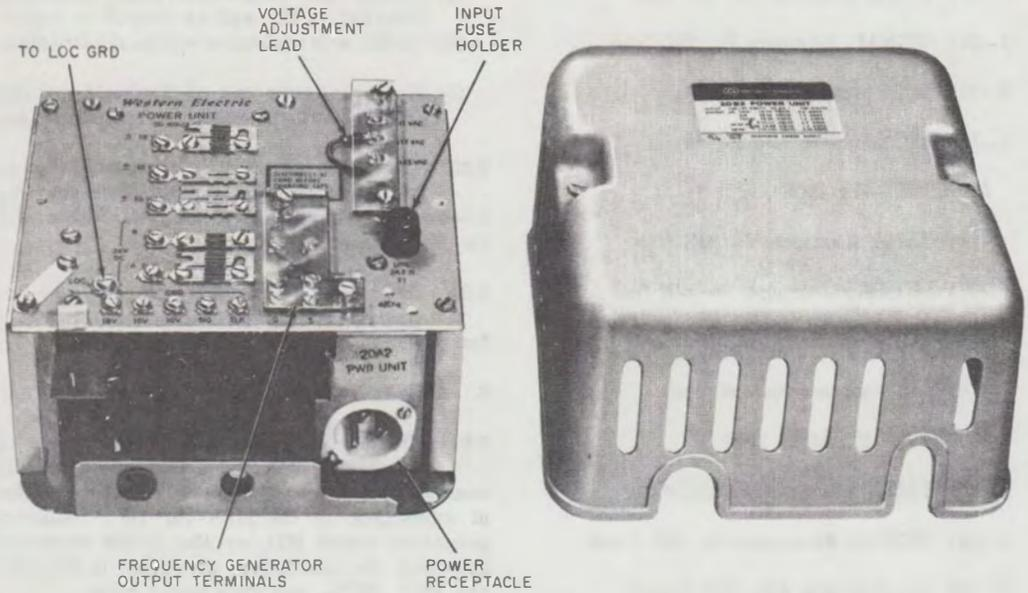
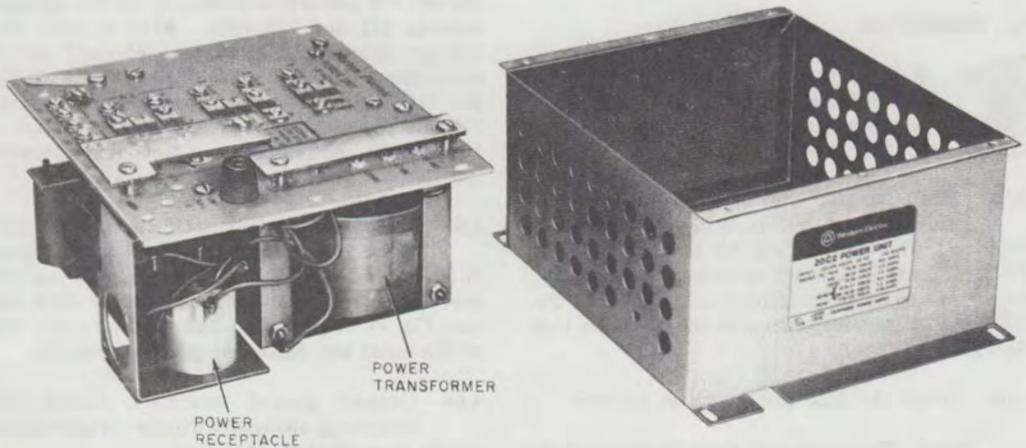

Fig. 3—20B2 Power Unit (Wall Mounted) Cover Removed
Fig. 4—20C2 Power Unit (Rack Mounted) Enclosure Removed to Show Power Receptacle
20B2—20A2 with hardware and cover for wall mounting (see Fig. 3)
20C2—20A2 with hardware for mounting in a Key Service Unit or relay rack (see Fig. 4).
2.03 The power units are equipped with a parallel blade ground receptacle. A 3-conductor power cord with male and female standard 3-prong plugs is available for connection to the input receptacle in the power unit (see Fig. 3 and 4). The cords are available in the following lengths and should be ordered separately:
- (1) Fasten the backboard plate assembly, P33A830, to the wall as covered in Section 463-130-200, or in accordance with local instructions.
- (2) Hang the power unit on the backboard and secure it with the machine screws provided.
- 3.03** The 20C2 power unit is mounted on an equipment rack using the four mounting holes on the metal enclosure (Fig. 4). Fasten with the machine screws provided.
- 4.03** Place wiring (supplying telephone equipment) through the plastic grommet at the bottom of the 20B2 unit (Fig. 3) and through the slot provided on the mounting flange on the 20C2 unit (see Fig. 4). Dress the wires along the left side of the panel and below the ground terminals.